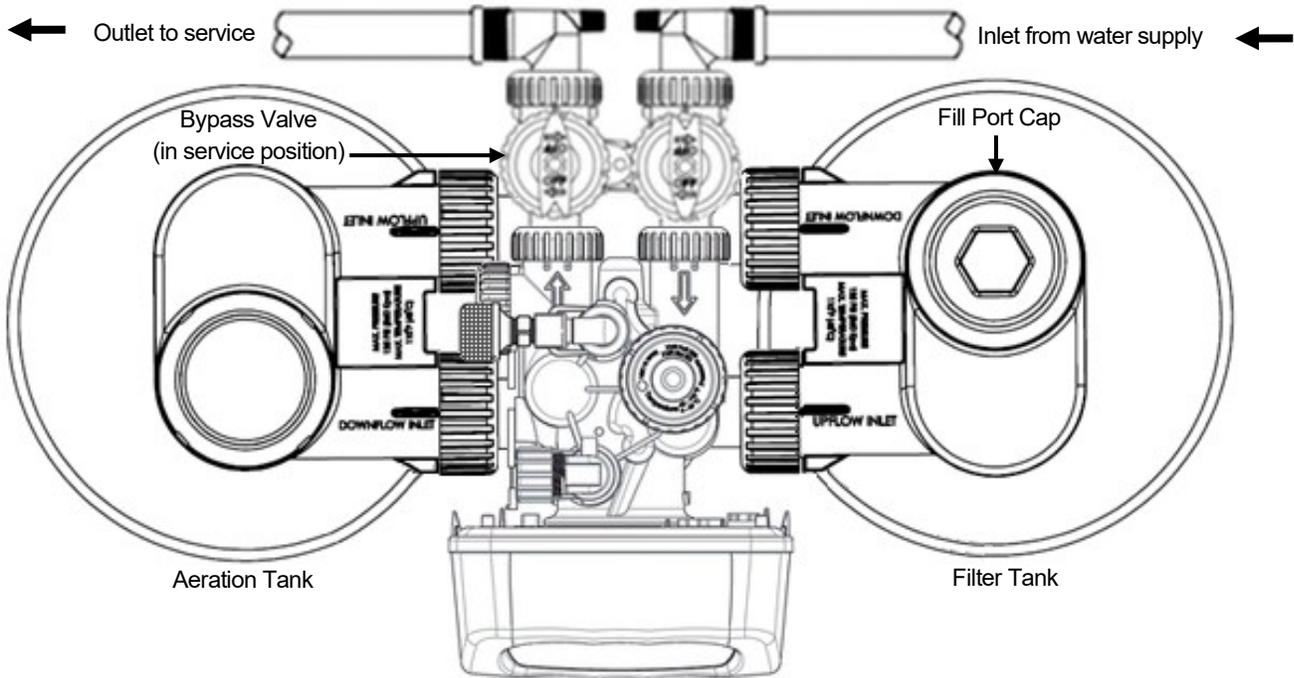

FIGURE 6a: Tank Positioning and Fill Port Location
- STEP 2:** Place the tanks in the upright position. Use the provided wrench to **remove the fill port cap from the filter tank** (See Figure 6a, page 7) by turning it counterclockwise.